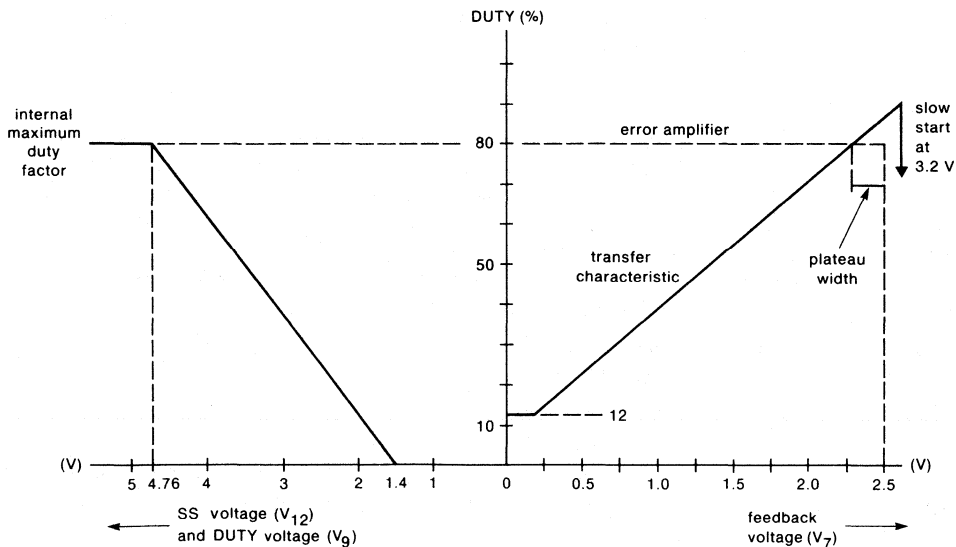

Fig.7 The duty factor as a function of the FB, SS and DUTY voltages.
The feedback (FB) input (pin 7) is used as the input to the Transfer Characteristic Generator (TCG) circuit which ensures well defined duty factors at low FB voltages; a voltage foldback is an inherent characteristic. In Fig.7, the duty factor is shown as a function of the voltages at the FB, DUTY and SS inputs. The input which gives the lowest duty factor overrides the others.
TCG function (see Fig.7)